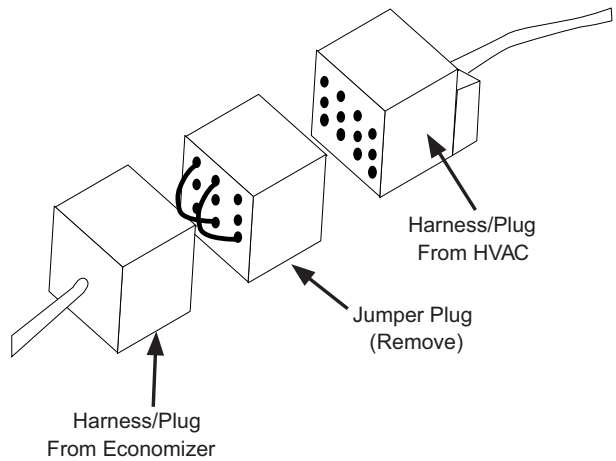

Fig. 6 — Harness and Jumper Plug
8. Before the economizer is secured in place on the right hand side, remove and save the 12-pin jumper plug from the unit wiring harness. (See Fig. 6.) Insert the economizer plug into the unit wiring harness plug. (See Fig. 6.)
8. Before the economizer is secured in place on the right hand side, remove and save the 12-pin jumper plug from the unit wiring harness. (See Fig. 6.) Insert the EconoMiSer®2 plug into the unit wiring harness plug. (See Fig. 6.)